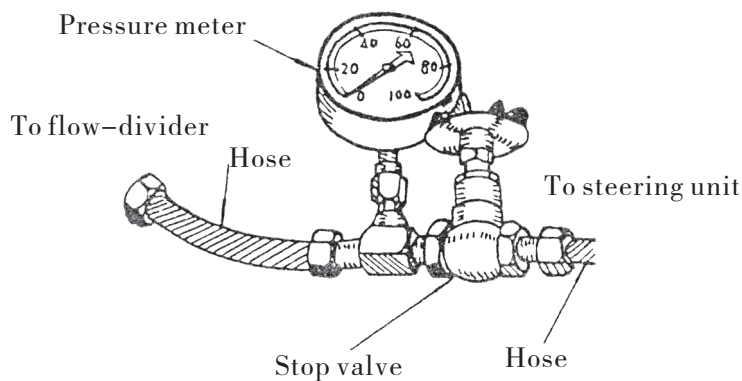
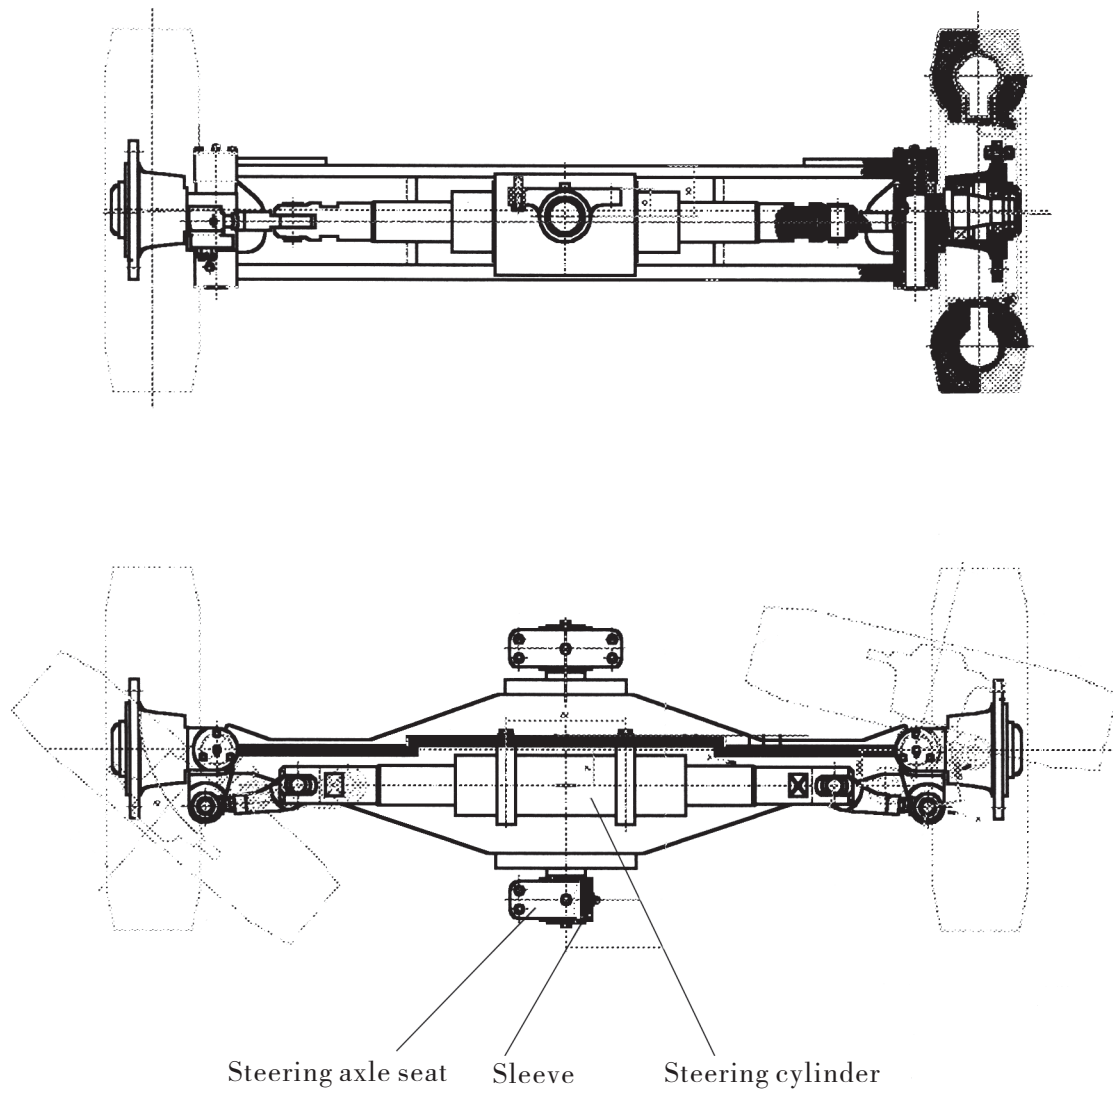

Fig.6.3 Measure pressure
Fig.6.4 Steering axle
(5) To measure hydraulic pressure,use the pressure gauge(15–20MPa),stop valve and hoses connected as shown in fig.6.3.
5–10t forklift entirely adopts transverse steering oil cylinder. The front and rear of the center are supported by two supporting axle through sleeve on the steering axle base, the later is fixed on the forklift frame. The two supporting axle can sway a certain angle to the right and left. The structures of steering axle of 5–10t forklifts are the same in the most parts and the main structure is presented in the Fig. 6.3 and Fig. 6.4.